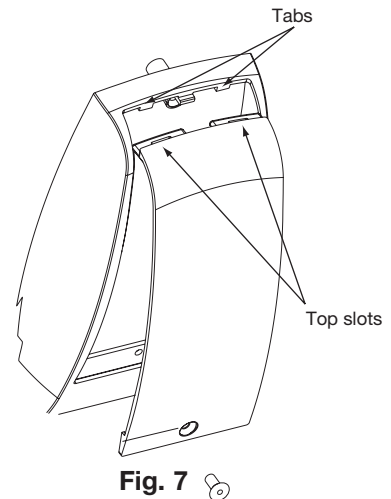

Fig. 7
3. Attach battery cover to inside escutcheon, making sure to line up tabs with retaining slots in battery cover. Secure with security screw (Fig. 7).